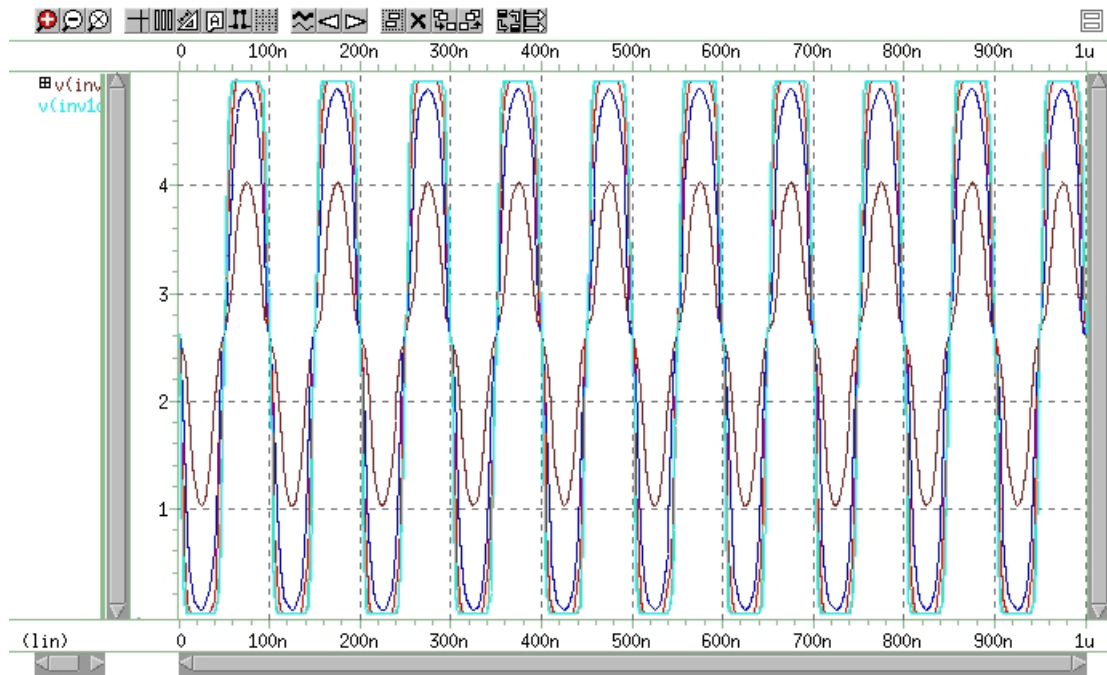
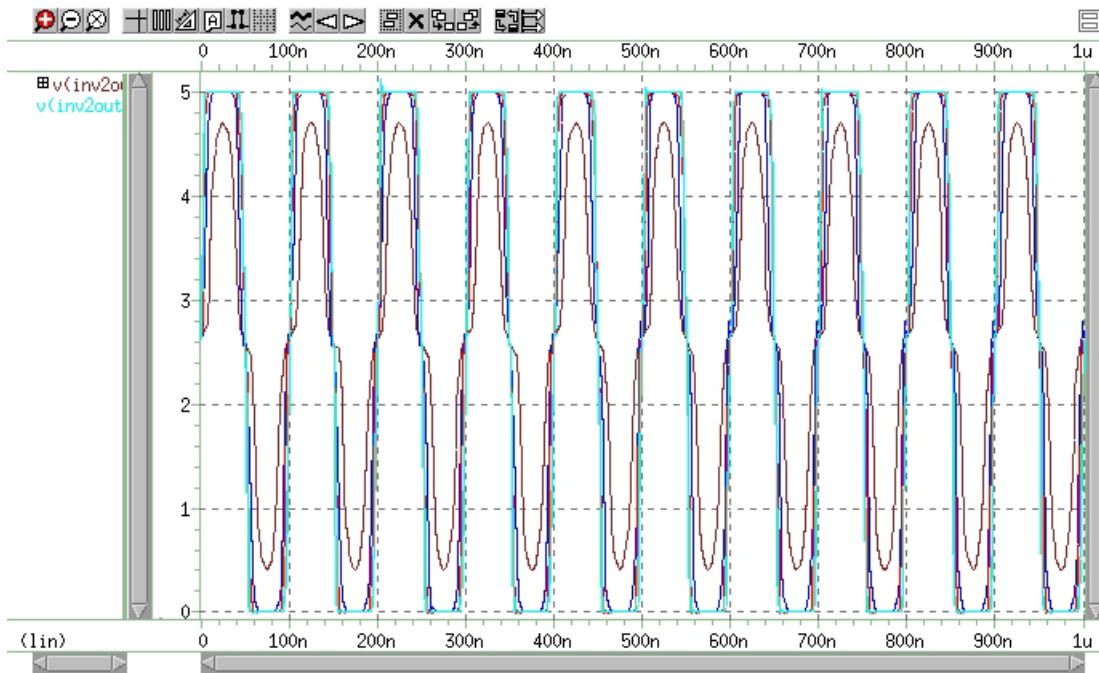

Figure 201 Plot of Voltage on Node inv1out vs. Time
Figure 202 Plot of Voltage on Node *inv2out* vs. Time
- Repeat Step 6 and Step 7 to view the signals $v(inv1out)$ and $v(inv2out)$ (Figure 201 and Figure 202 on page 1059).